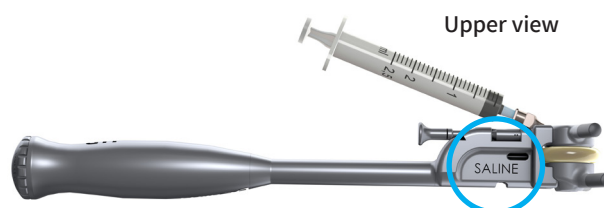

Figure 33: Face Holder so “SALINE” is facing the ceiling
- i. Fill a syringe with sterile injectable 0.9% NaCl (saline) to at least 1.7cc. Attach the syringe to the luer of the needle in the TOPS Motion Implant. Hold the TOPS Inserter with the TOPS Motion Implant and the word “SALINE” facing upward towards the ceiling (Figure 33).